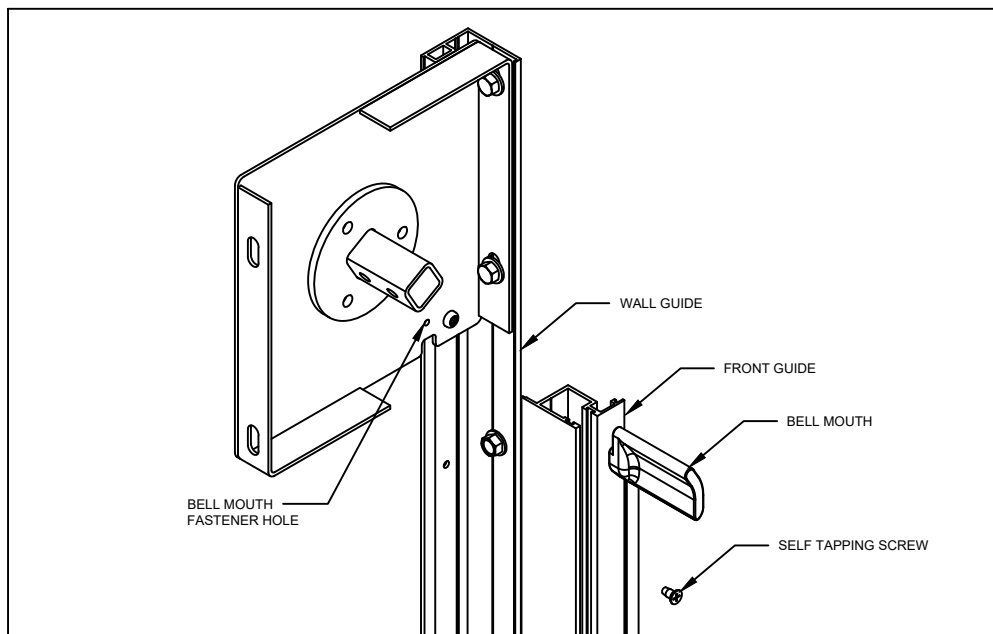

FIGURE 12
- g. Install front guide angles as shown in Figure 12 using supplied fasteners.